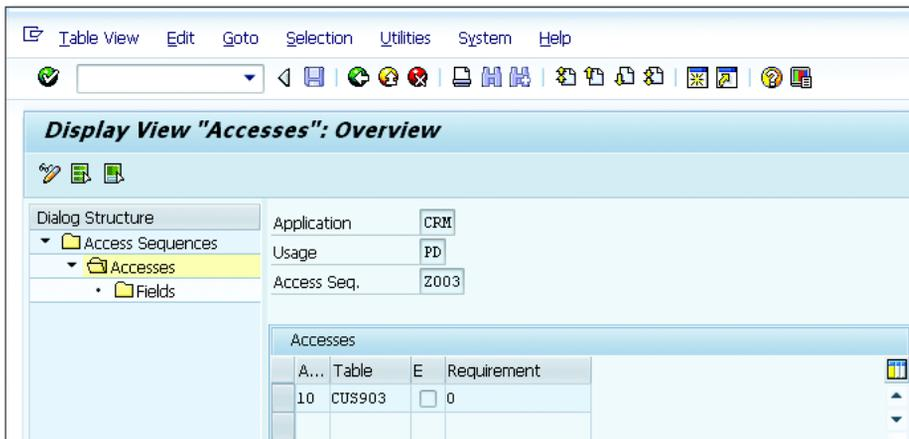

Figure 4.33 Table Assigned to the Access Sequence
3. Table CUS903 is assigned to the access sequence Z003, which is downloaded from SAP ERP to SAP CRM, as shown in Figure 4.33.